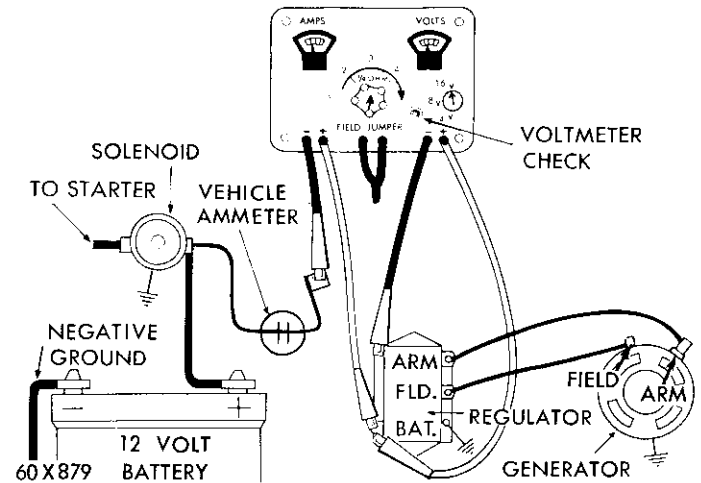

Fig. 14—Voltage Regulator Test
(1) Disconnect the battery wire from the battery terminal of the regulator and connect the negative lead of the test ammeter to the battery wire that was disconnected from the regulator "B" terminal and the ammeter positive lead to the regulator "B" terminal (Fig. 14).
(2) Connect the positive voltmeter lead to regulator "B" terminal and negative voltmeter lead to the base of the regulator.
(3) Turn the control knob of the tester to the No. 3 position.